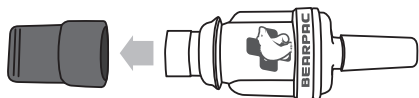

Fig. 1
9. Remove catheter valve cap by pulling away from catheter valve. Dispose of cap. (Figure 1)